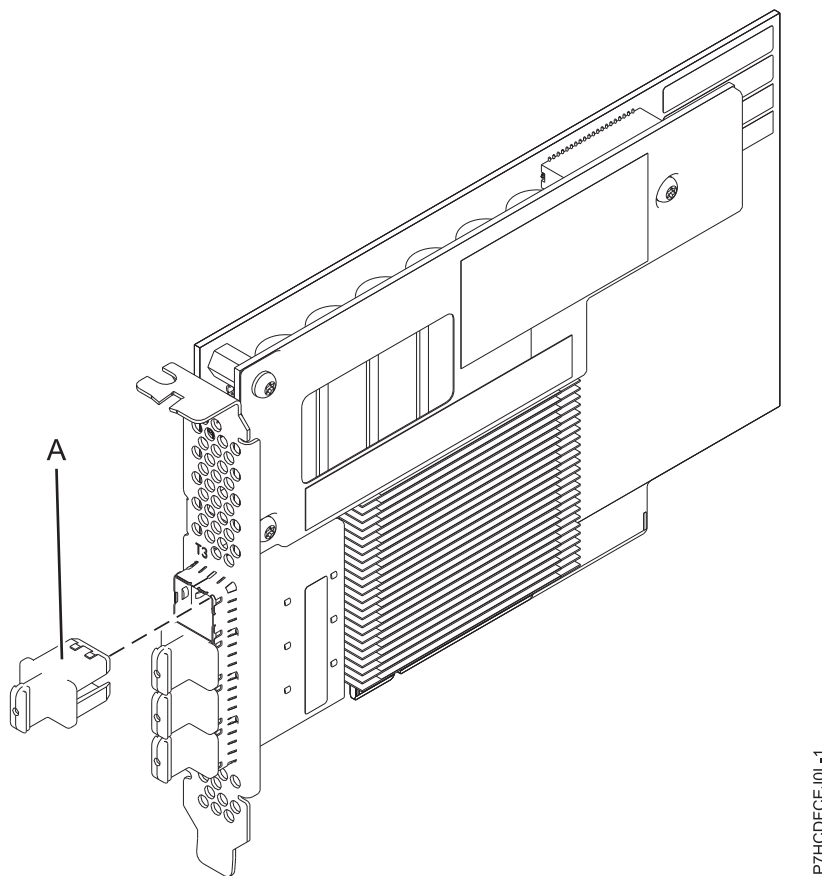

Figure 18. PCIe3 12 GB Cache RAID SAS 6 Gb Adapter
Figure 18 shows the PCIe3 12 GB Cache RAID SAS quad-port 6 Gb adapter. The connector plug (A) is installed in an empty port and prevents damage to that port whenever a cable for the adjacent port connectors is plugged-in or removed.
The FC EJ0L is a single wide, full-height, short adapter. Figure 18 shows the FC EJ0L adapter. Every FC EJ0L requires another FC EJ0L on this server, or on another server, which pairs with the SAS RAID adapter and enables cache functionality and the other multi-initiator high availability (dual storage IOA) functions.